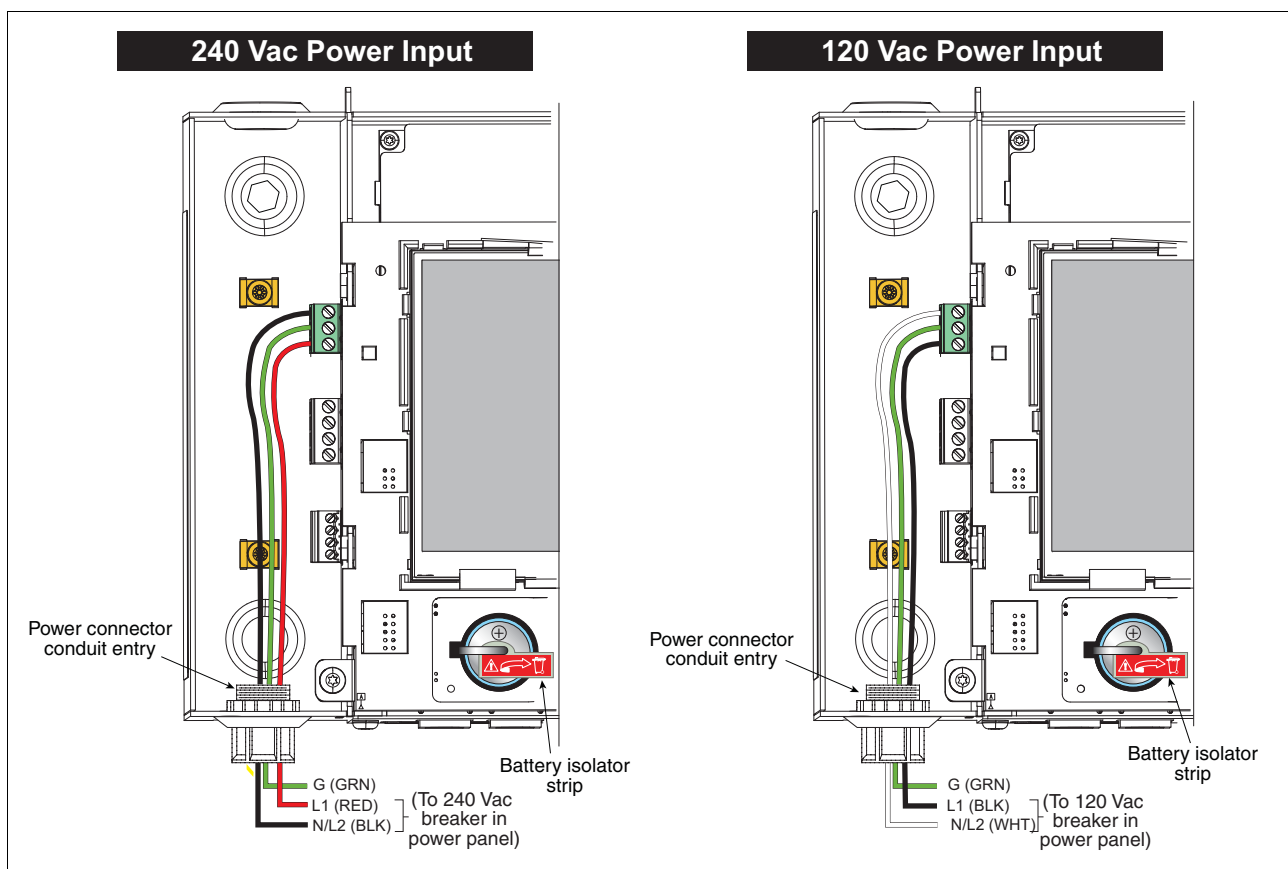

Figure 5. Wiring AC Power to the DL Console
2. Connect the input 120 or 240 Vac power wires as shown in Figure 5.
Once the communication devices, etc., are connected to the console, remove and discard the backup battery isolator strip (see Figure 5).